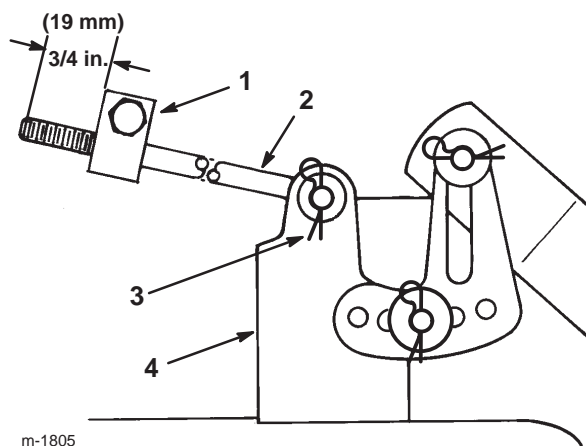

Figure 47
11. Measure the length of the rod extending out of the front of the adjusting block on the sides of the chassis (Fig. 47). If the rod length is not 3/4 in. (19 mm), remove the hairpin cotter and washer from the end of the rod (Fig. 47) and turn the rod until it extends out 3/4 in. (19 mm).